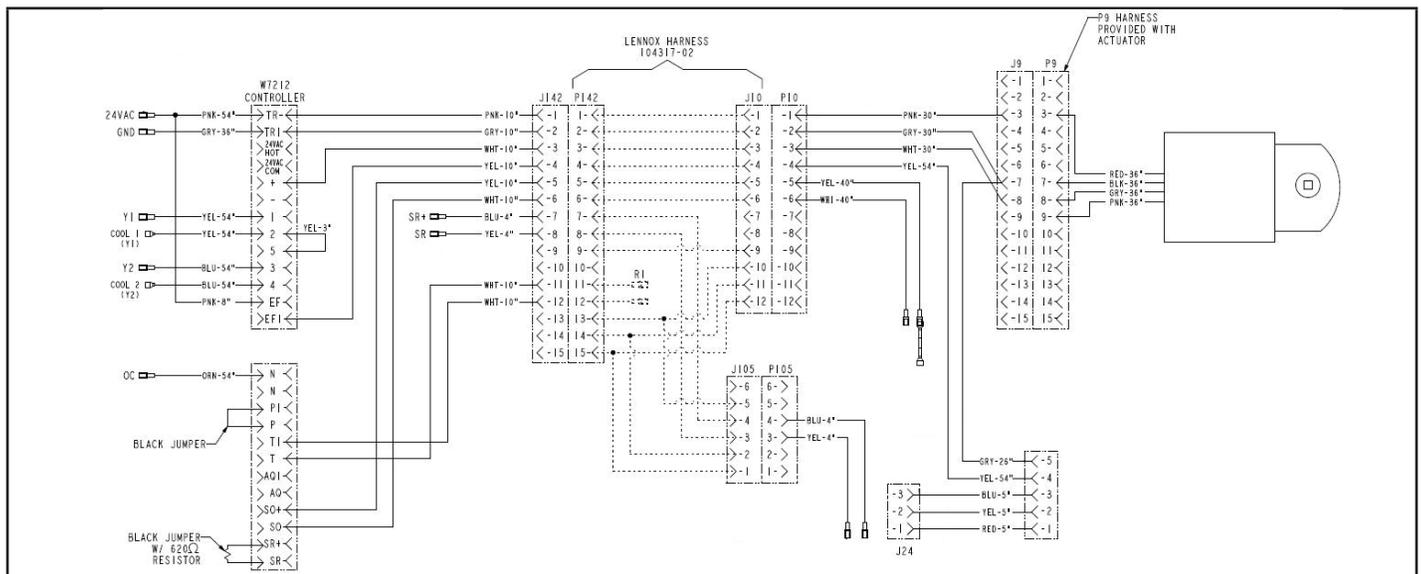

FIGURE 23
- 4 - Connect any optional sensors as shown in FIGURE 23.
- 5 - If optional power exhaust is used, wire according to instructions provided with power exhaust. See FIGURE 23.